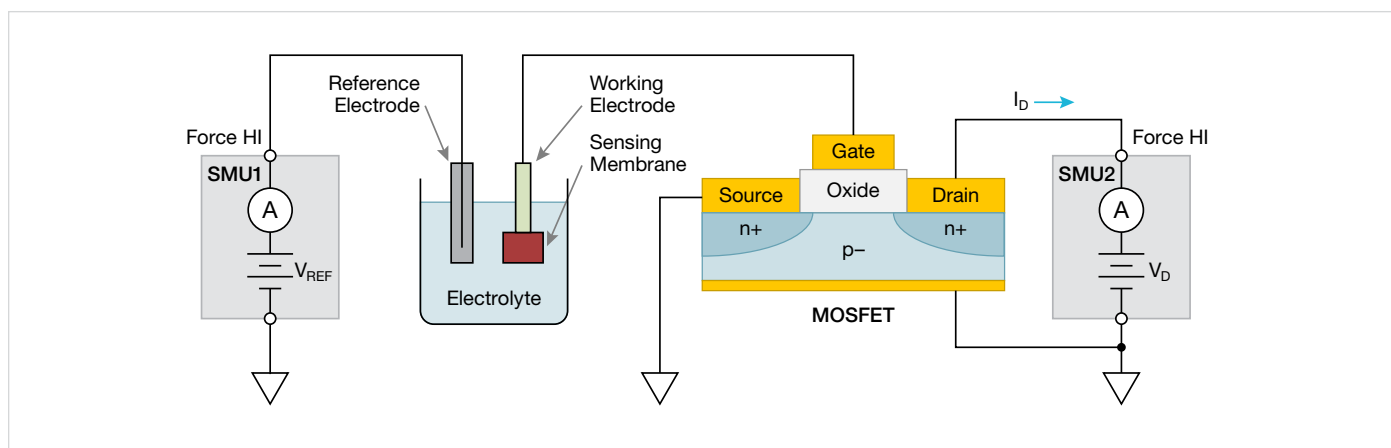

Figure 6. Extended-Gate FET.
**Figure 6** shows an extended-gate FET which includes both a sensing structure and a MOSFET. In this bioFET, the sensing structure and the MOSFET are physically separated into two parts. Because the MOSFET is separate from the sensing element, a commercially available MOSFET can be used as the transducer.